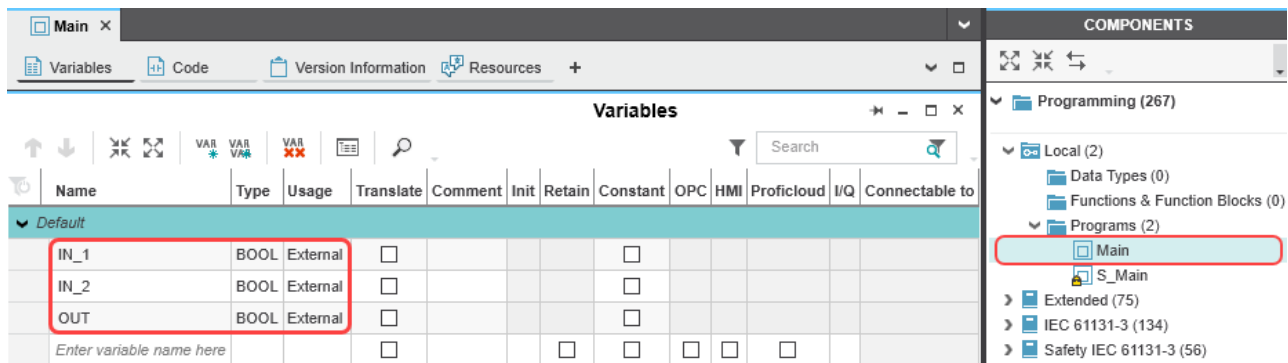

Figure 6-26 Creating variables for a POU (in the example: for the “Main” POU)
- Create the variables that you need for the selected POU (in the example in Figure 6-26: Main).